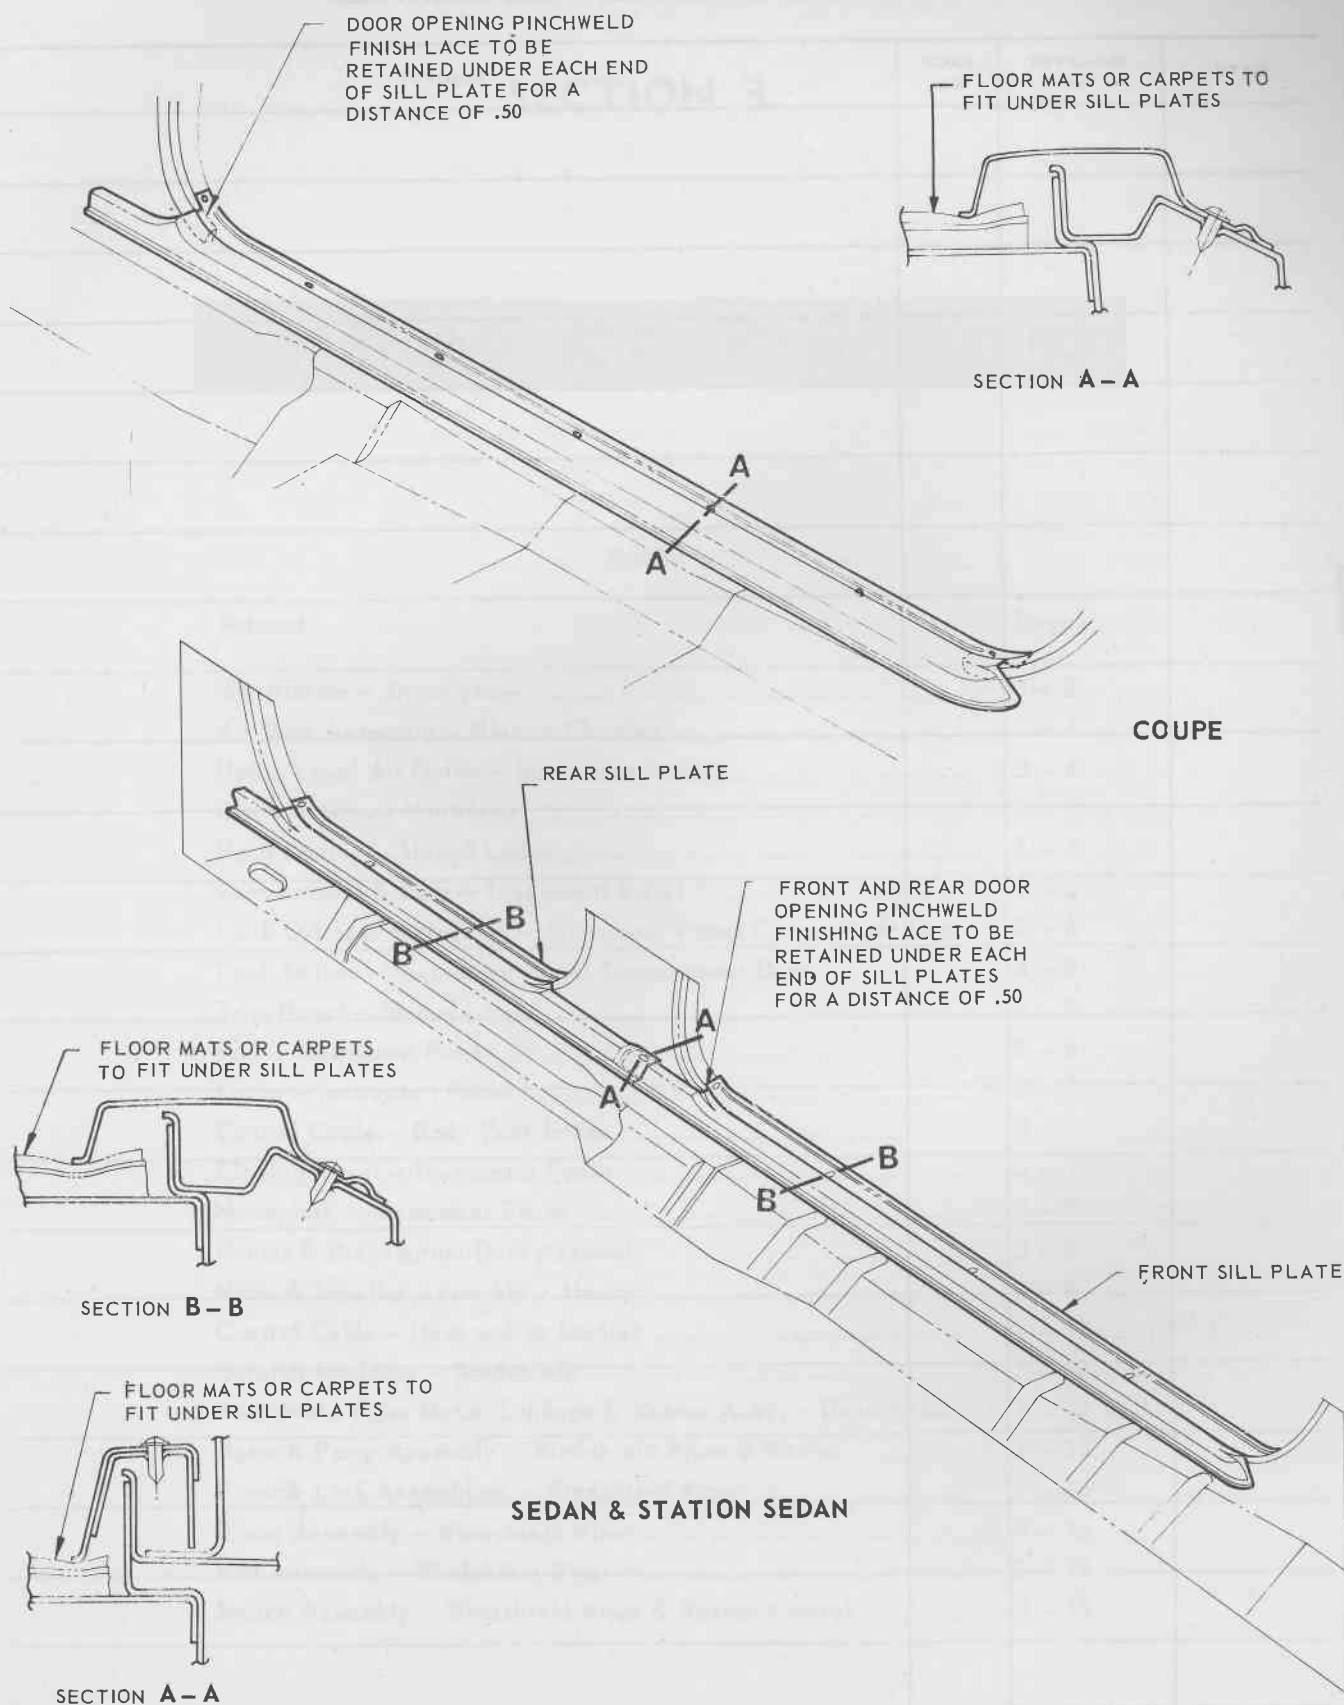

FIG. 2 - 6
2. Remove screws securing sill plate to rocker panel (see Fig. 2 - 6) then remove sill plate.
NOTE: The removal of the front sill plate on sedans and station sedans necessitates the removal of the foremost rear sill plate to rocker panel attaching screw (see Section A-A, Fig. 2 - 6).